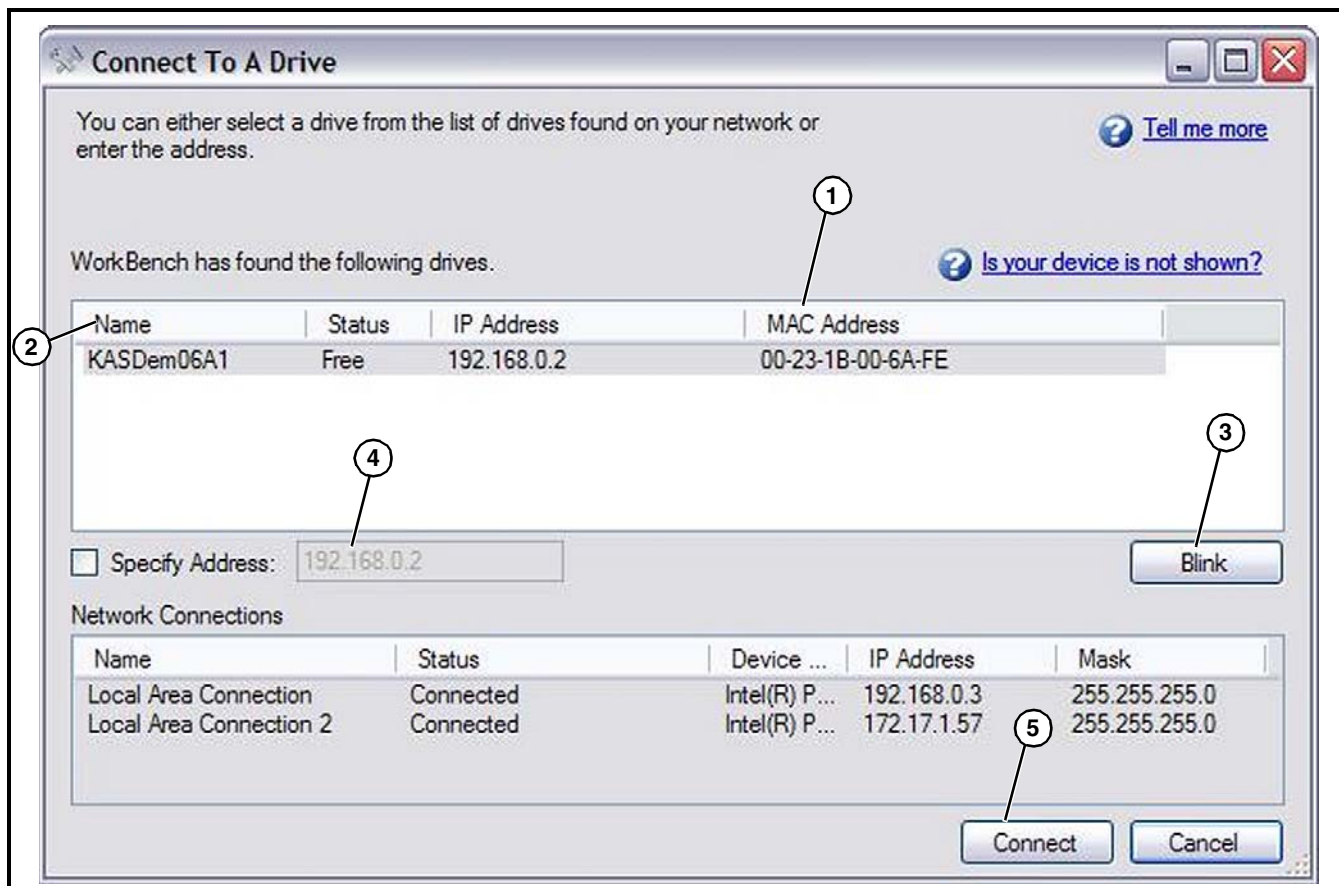

Figure 37
1. The **MAC Address (Figure 37, item 1)** of the drive. This is printed on the sticker on the side of the drive.
2. The **Name (Figure 37, item 2)** of the drive. The drive name is set using WorkBench. A new drive defaults to “No_Name.”
3. Blinking the display. Select a drive and click **Blink (Figure 37, item 3)** to force the display on the front of the drive to blink on and off for 20 seconds.
Hint: If the IP Address next to the “Specify Address” box (Figure 37, item 4) is the same as the drive you wish to connect to, click on the box next to it. It will speed up the connection time greatly.
4. Click on **Connect (Figure 37, item 5)**.